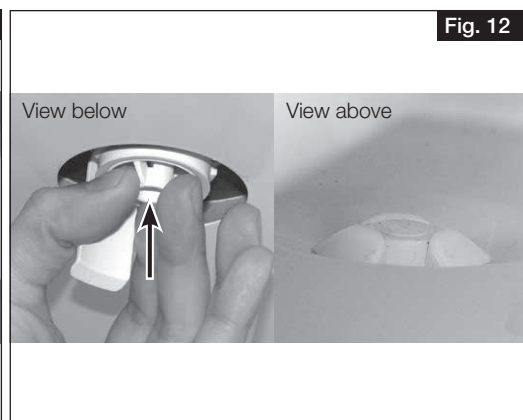

Fig. 12
2. Plug the mounting part in the condensate outlet from below, until the claw fasteners snap to the edge of the base plate (see Fig. 12).